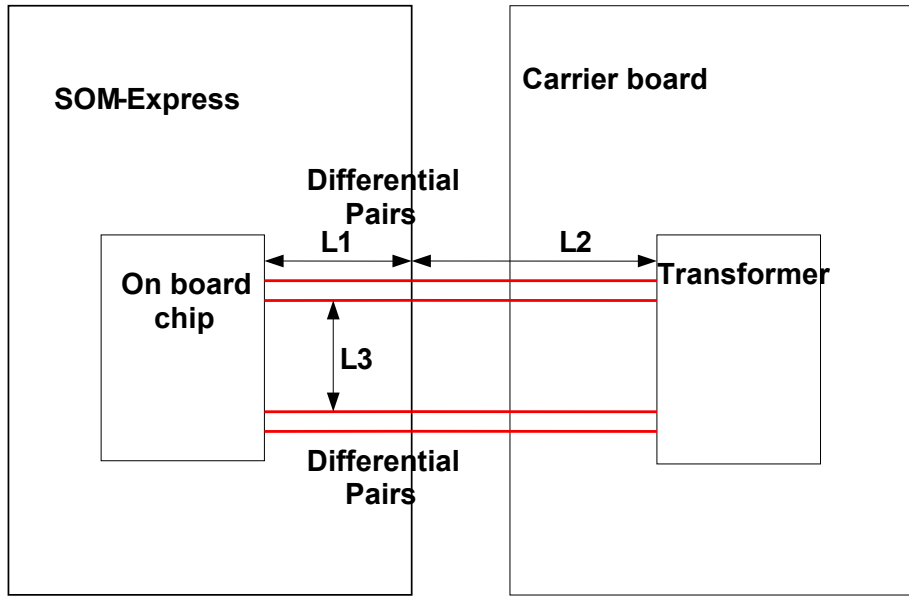

Figure 5-30 Differential signals route example
- The total length of each differential pair should be less than 4 inches. There is 1.5 inches on SOM-Express, so keep the length of each differential pair under 2.5 inches. Figure 5-30 shows an example. L1 is 1.5 inches on the SOM-Express. On your carrier board, L2 should be less than 2.5 inches.
- Do not route any other signal traces (including other differential pairs) parallel to the differential traces or closer than 100 mils to the differential traces. Figure 5-30 shows an example. We recommend length L3 to be kept longer than 100 mils.